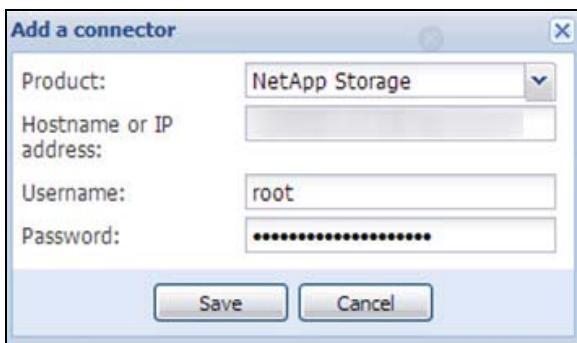

Figure 193. Add NetApp
5. Select **Settings > Infrastructure Connectors**. The Infrastructure Connectors Select Add a connector in the right panel. The Add a connector dialog opens (see Figure 193).